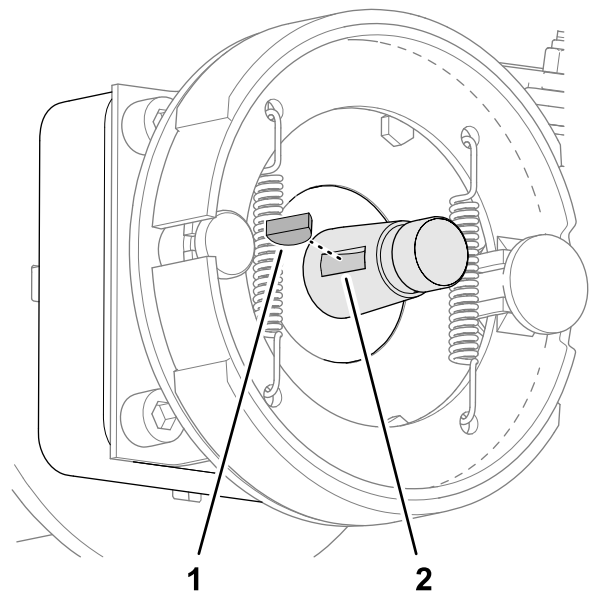

Figure 72
2. Insert the woodruff key into the groove of the wheel-motor shaft (Figure 72).